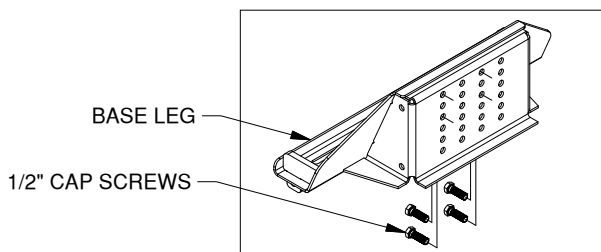

Figure A2: View of base leg.
2. Locate both base legs and eight 1/2" cap screws. Identify the mounting holes needed to mount the arms in their optimal location. Pass four 1/2" cap screws through the bottom of the base into the bolt plate, as shown in figure A2.